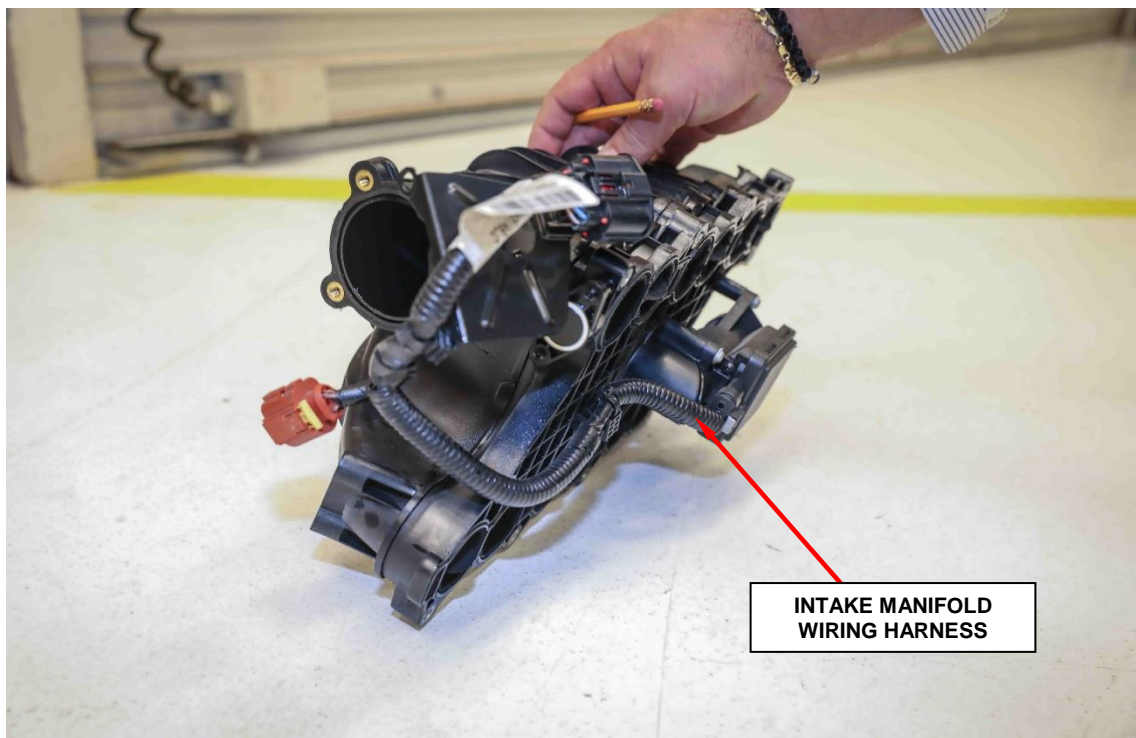

Figure 27 – Intake Manifold
44. Transfer the intake manifold wiring harness onto the **NEW** intake manifold (Figure 27).